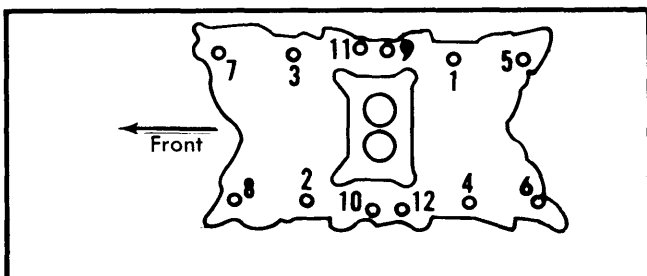
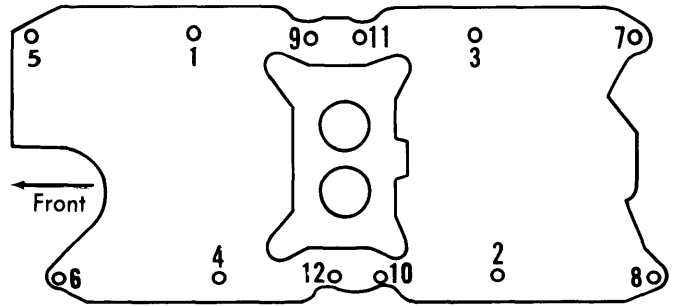

Fig. 1 Intake Manifold Tightening Sequence for 351" M and 400" Engines
Fig. 2 Intake Manifold Tightening Sequence for 302" and 351" W Engines
2) Position gaskets so they are interlocked with seal tabs. Using guide pins, lower manifold onto engine and check for correct positioning of gaskets and seals before installing bolts. Remove guide pins, install bolts and tighten to specification, following the sequence shown in either *Fig. 1* or *Fig. 2*.